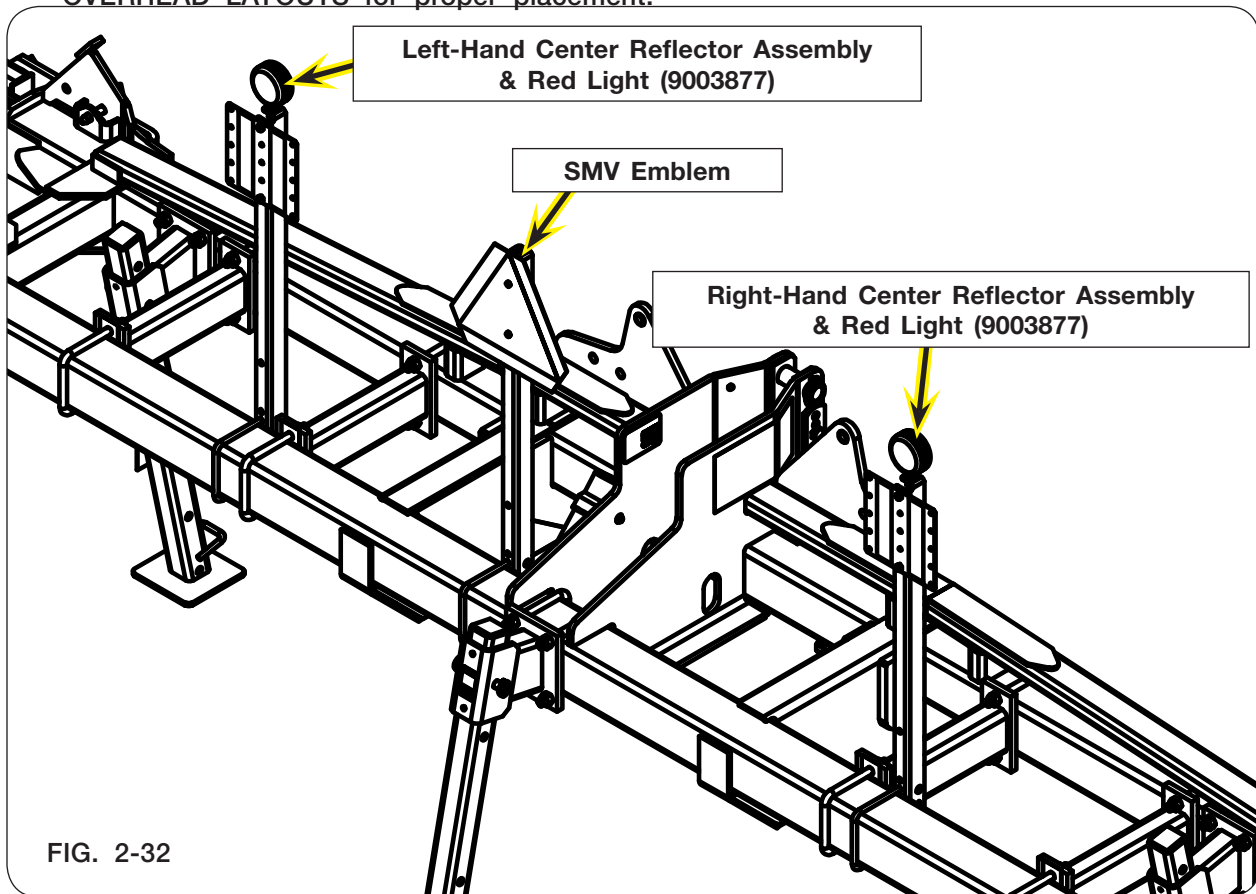

FIG. 2-32
5. Attach the left-hand center reflector assembly to the left-hand side of the frame with a 1/2"-13UNC U-bolt (9005460) and 1/2"-13UNC lock nuts (9800) (FIG. 2-32). Refer to the OVERHEAD LAYOUTS for proper placement.